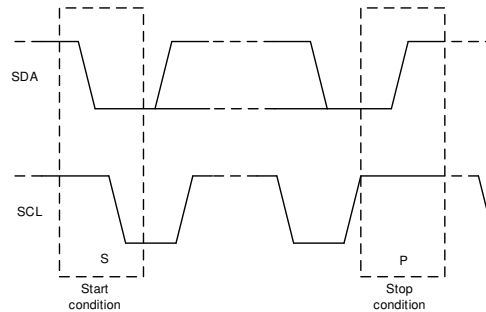

图 60. Start and Stop Conditions
1. The master initiates data transfer by generating a start condition. The start condition is when a high to-low transition occurs on the SDA line while SCL is high, as shown in 图 60. All I²C-compatible devices recognize a start condition.
4. To signal the end of the data transfer, the master generates a stop condition by pulling the SDA line from low-to-high while the SCL line is high (see 图 60). This action releases the bus and stops the communication link with the addressed slave. All I²C-compatible devices recognize the stop condition. Upon receipt of a stop condition, the bus is released, and all slave devices then wait for a start condition followed by a matching address.